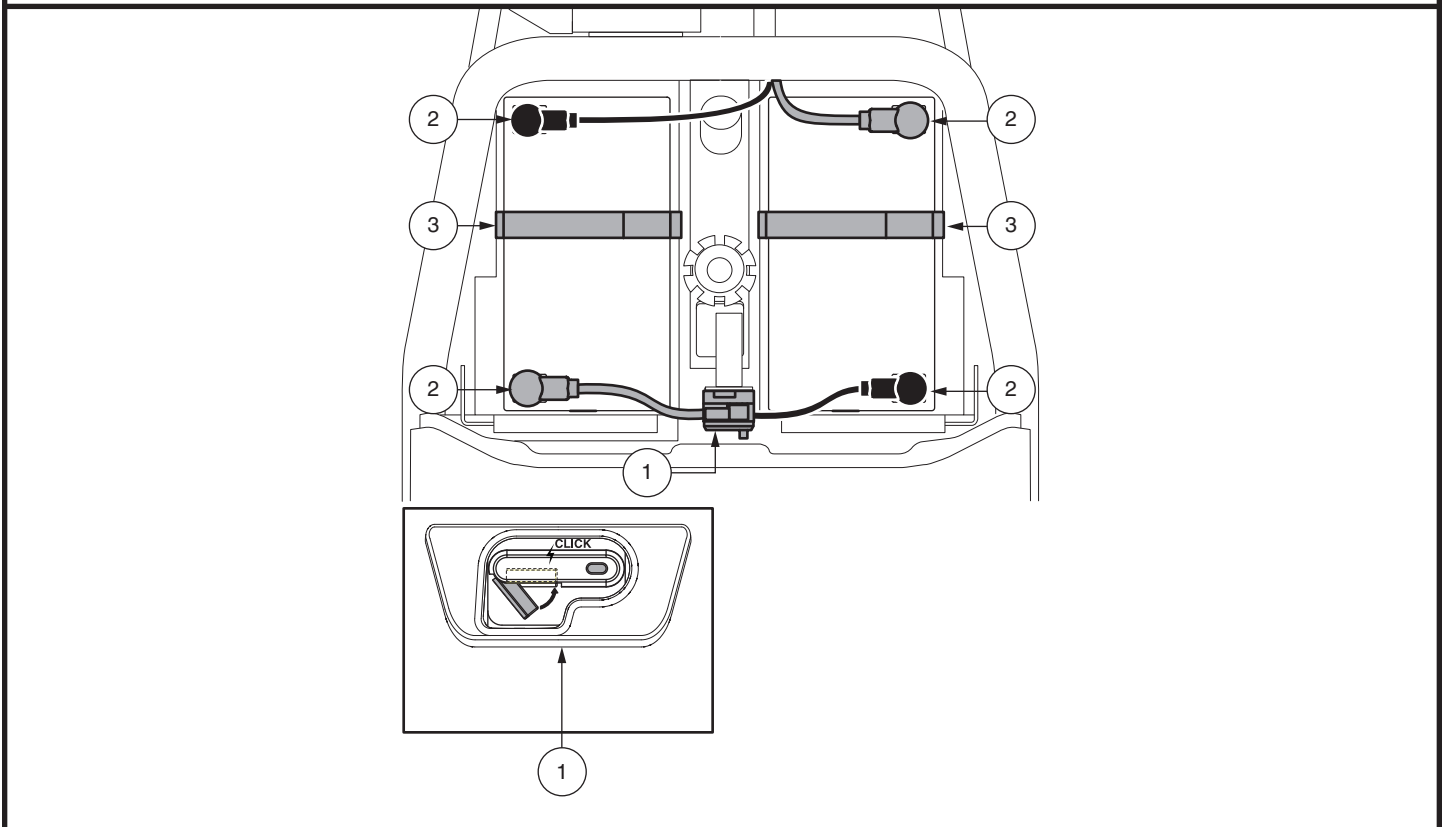

Figure 13. Battery Removal/Installation Terminals and Connections
**NOTE: Use battery straps to secure batteries in the battery wells. Please refer to figures 13 and 16 for battery strap installation procedures.**